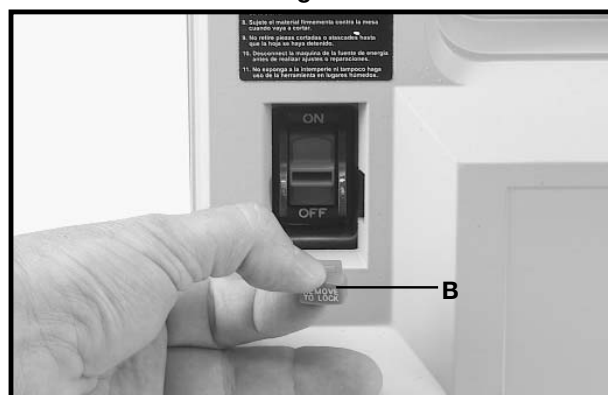

Fig. 16
**IMPORTANT: When the tool is not in use, the switch should be locked in the “OFF” position to prevent unauthorized use.** This can be done by grasping the switch toggle (B) Fig. 16, and pulling it out of the switch, as shown. With the switch toggle (B) removed, the switch will not operate. However, should the switch toggle be removed while the machine is running, the switch can be turned “OFF” once, but cannot be restarted without inserting the switch toggle (B).